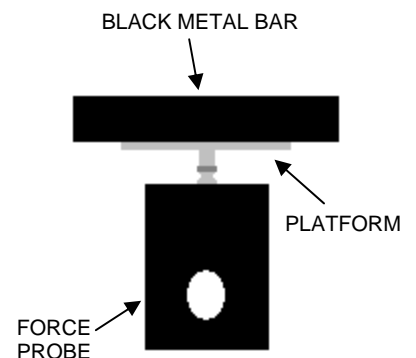

FIGURE 1 –
**C)** Place the black metal bar on the platform. See **Figure 1**.